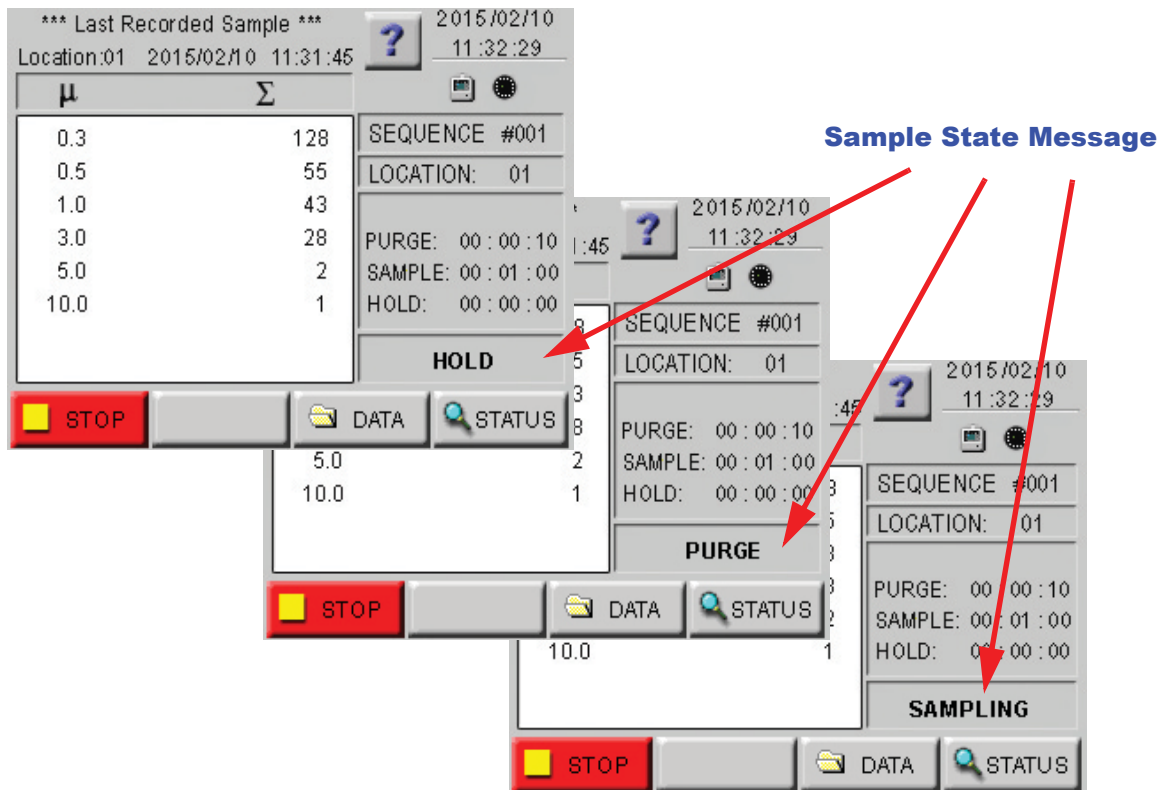

Figure 6-3 PURGE, SAMPLING and HOLD Sample States
13. **Sample State:** Displays the Sensor sample state such as SAMPLING, PURGE or HOLD. Refer to Figure 6-3.
17. **START/STOP:** Press Start/Stop button on the screen to start a cycle. While running, the instrument displays the Sensor Sample State of PURGE, SAMPLING or HOLD in the lower right corner of the screen as illustrated in Figure 6-3. The CONFIG button is blanked out and disabled. Press Start/Stop button to stop counting and the word PURGE, SAMPLING or HOLD will disappear.